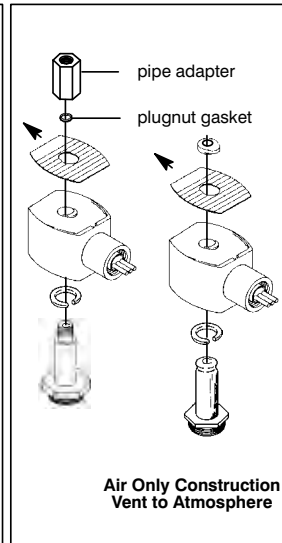

Figure 3. 3-Way Construction
3. Snap off red cap from top of solenoid base sub—assembly. For 3—way construction with pipe adapter (Figure 3), remove pipe adapter, nameplate and solenoid. Omit steps 4 and 5.